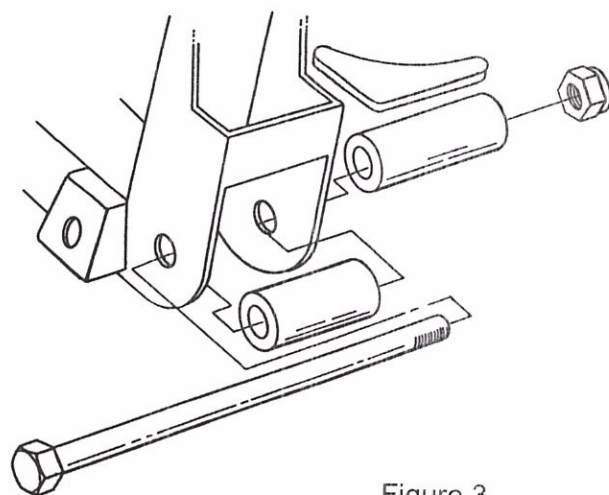

Figure 3
4. If you purchased a complete I.F.S. Package it was supplied with Full Lower A-Arms. Begin by installing the Spacers onto the crossmember. The holes where the lower control arms attach to the Crossmember must be enlarged to 5/8". Install the Crossmember Spacers and the Rear Spacers which were supplied with the Lower Control Arms onto the Crossmember as shown in Figure 3 using the supplied Inner Bushing Bolts, Nuts and a temporary spacer under the Nuts. DO NOT use the A-Arms for this operation as the welding heat will melt the rubber bushings. Tighten the Bolts and Nuts tight. Weld the Rear Spacers to the Crossmember all around. Weld the Crossmember Spacers as far as possible inside the crossmember on both ends. Position the Gussets horizontally, not vertically, against the Rear Spacers and the back of the Crossmember. Weld Gussets to Spacers and Crossmember. When it cools, remove the bolt.